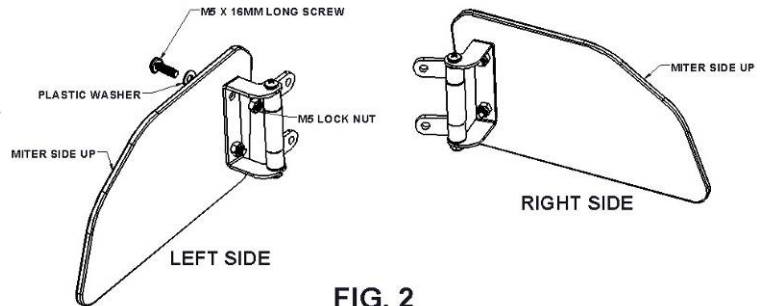

FIG. 2
- MOUNT THE DEFLECTOR PANELS TO EACH OF THE HARDWARE ASSEMBLIES AS SHOWN IN FIG. 2 BELOW. USE A M5 X 16MM SCREW WITH A PLASTIC WASHER ON THE OUTSIDE WITH A LOCK NUT ON THE INSIDE. BE CAREFUL TO NOT OVER TIGHTEN SCREWS.